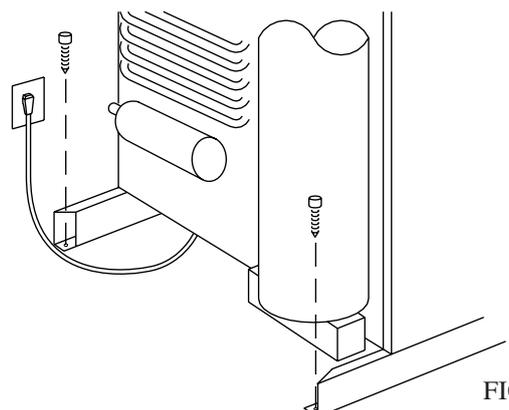

FIG. 5
3. Two screws installed in the rear base, see fig. 5.